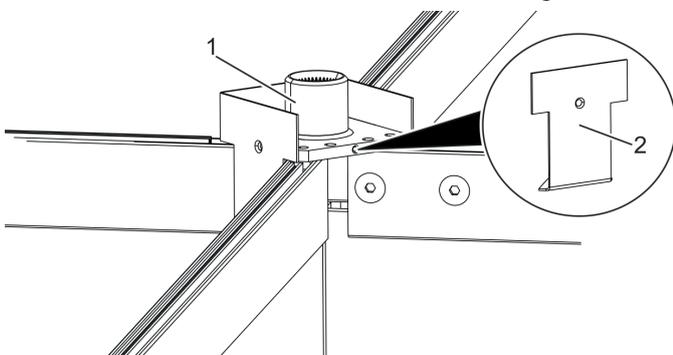

Fig. 99 Mount the covers on the upper cross fitting
16. Mount the covers (Fig. 99/2) on the outside of the upper cross fitting (Fig. 99/1). If necessary, Shorten covers first.